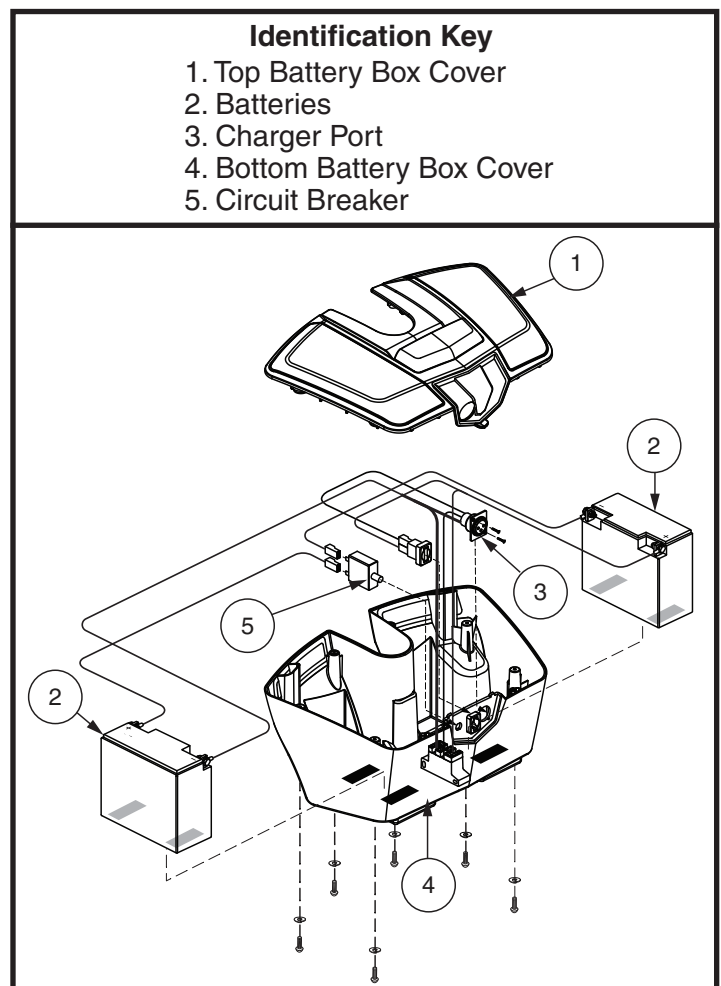

Figure 17. Go-Chair Battery Box
3. Remove all screws that hold the battery box halves together. **See figure 17.**
10. Reconnect the two (2) battery cables to the battery terminals. Make sure the red cable is connected to the positive (+) terminal and the black cable is connected to the negative (-) terminal.